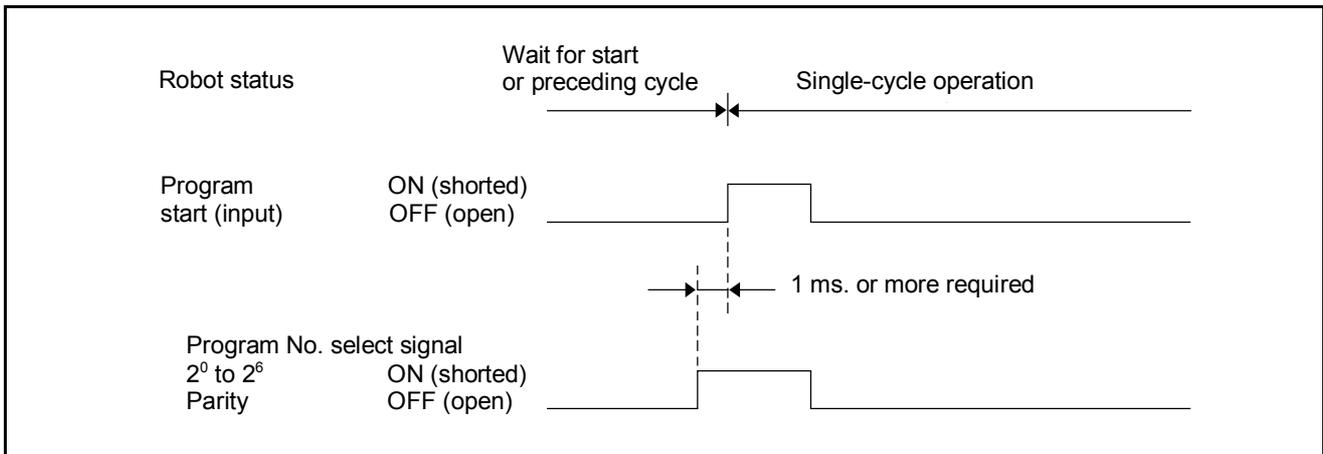

Figure 5-36 Program No. Select Signal
- ① This signal is executable only in the external mode. In other modes, an error (ERROR21E2, 21E4, 21E6) will be displayed, and the terminal motor power will be turned OFF.
- ② As shown in Table 5-13, the program No. select signal is made up of eight bits of  $2^0$  to  $2^6$  and the parity bit.
- ③ Input a decimal program number by converting it into binary  $2^0$  to  $2^6$  and parity bit.
- ④ "Short" represents the bit value = 1, "open" represents the bit value = 0, and the parity bit is odd parity.
- ⑤ As shown in Figure 5-36, input the program No. select signal before the program start signal (1 msec. or more), and hold the state until the robot starts to operate. If this condition is not met, ERROR2031 or ERROR2033 will be displayed, the power to the motor will be turned OFF, and the mode will be switched to the Auto mode.